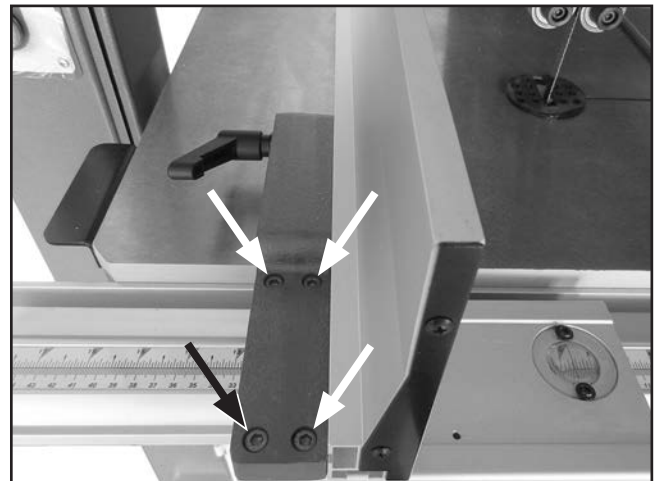

Figure 106. Location of fence adjustment cap screws (G0513X2 shown).
5. Loosen the four fence adjustment cap screws to left of fence face (see **Figure 106**), skew fence so it is parallel with wood board, contacting it evenly along its length, then tighten cap screws.